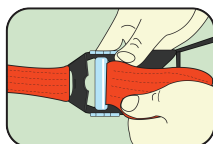

Figure 12
- Make sure that the ratchet is positioned so that the handle is facing down and the ratchet is fully open (open slot on axle should be facing up). Then, feed the end of the Slackline through the top of the ratchet (Figure 12).